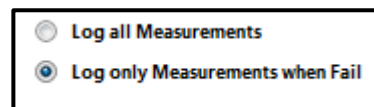

Figure 124. Select the condition.
3. Select the condition of the data logging: Log all Measurements or Log only Measurements when Fail (Session Status). [Figure 124]